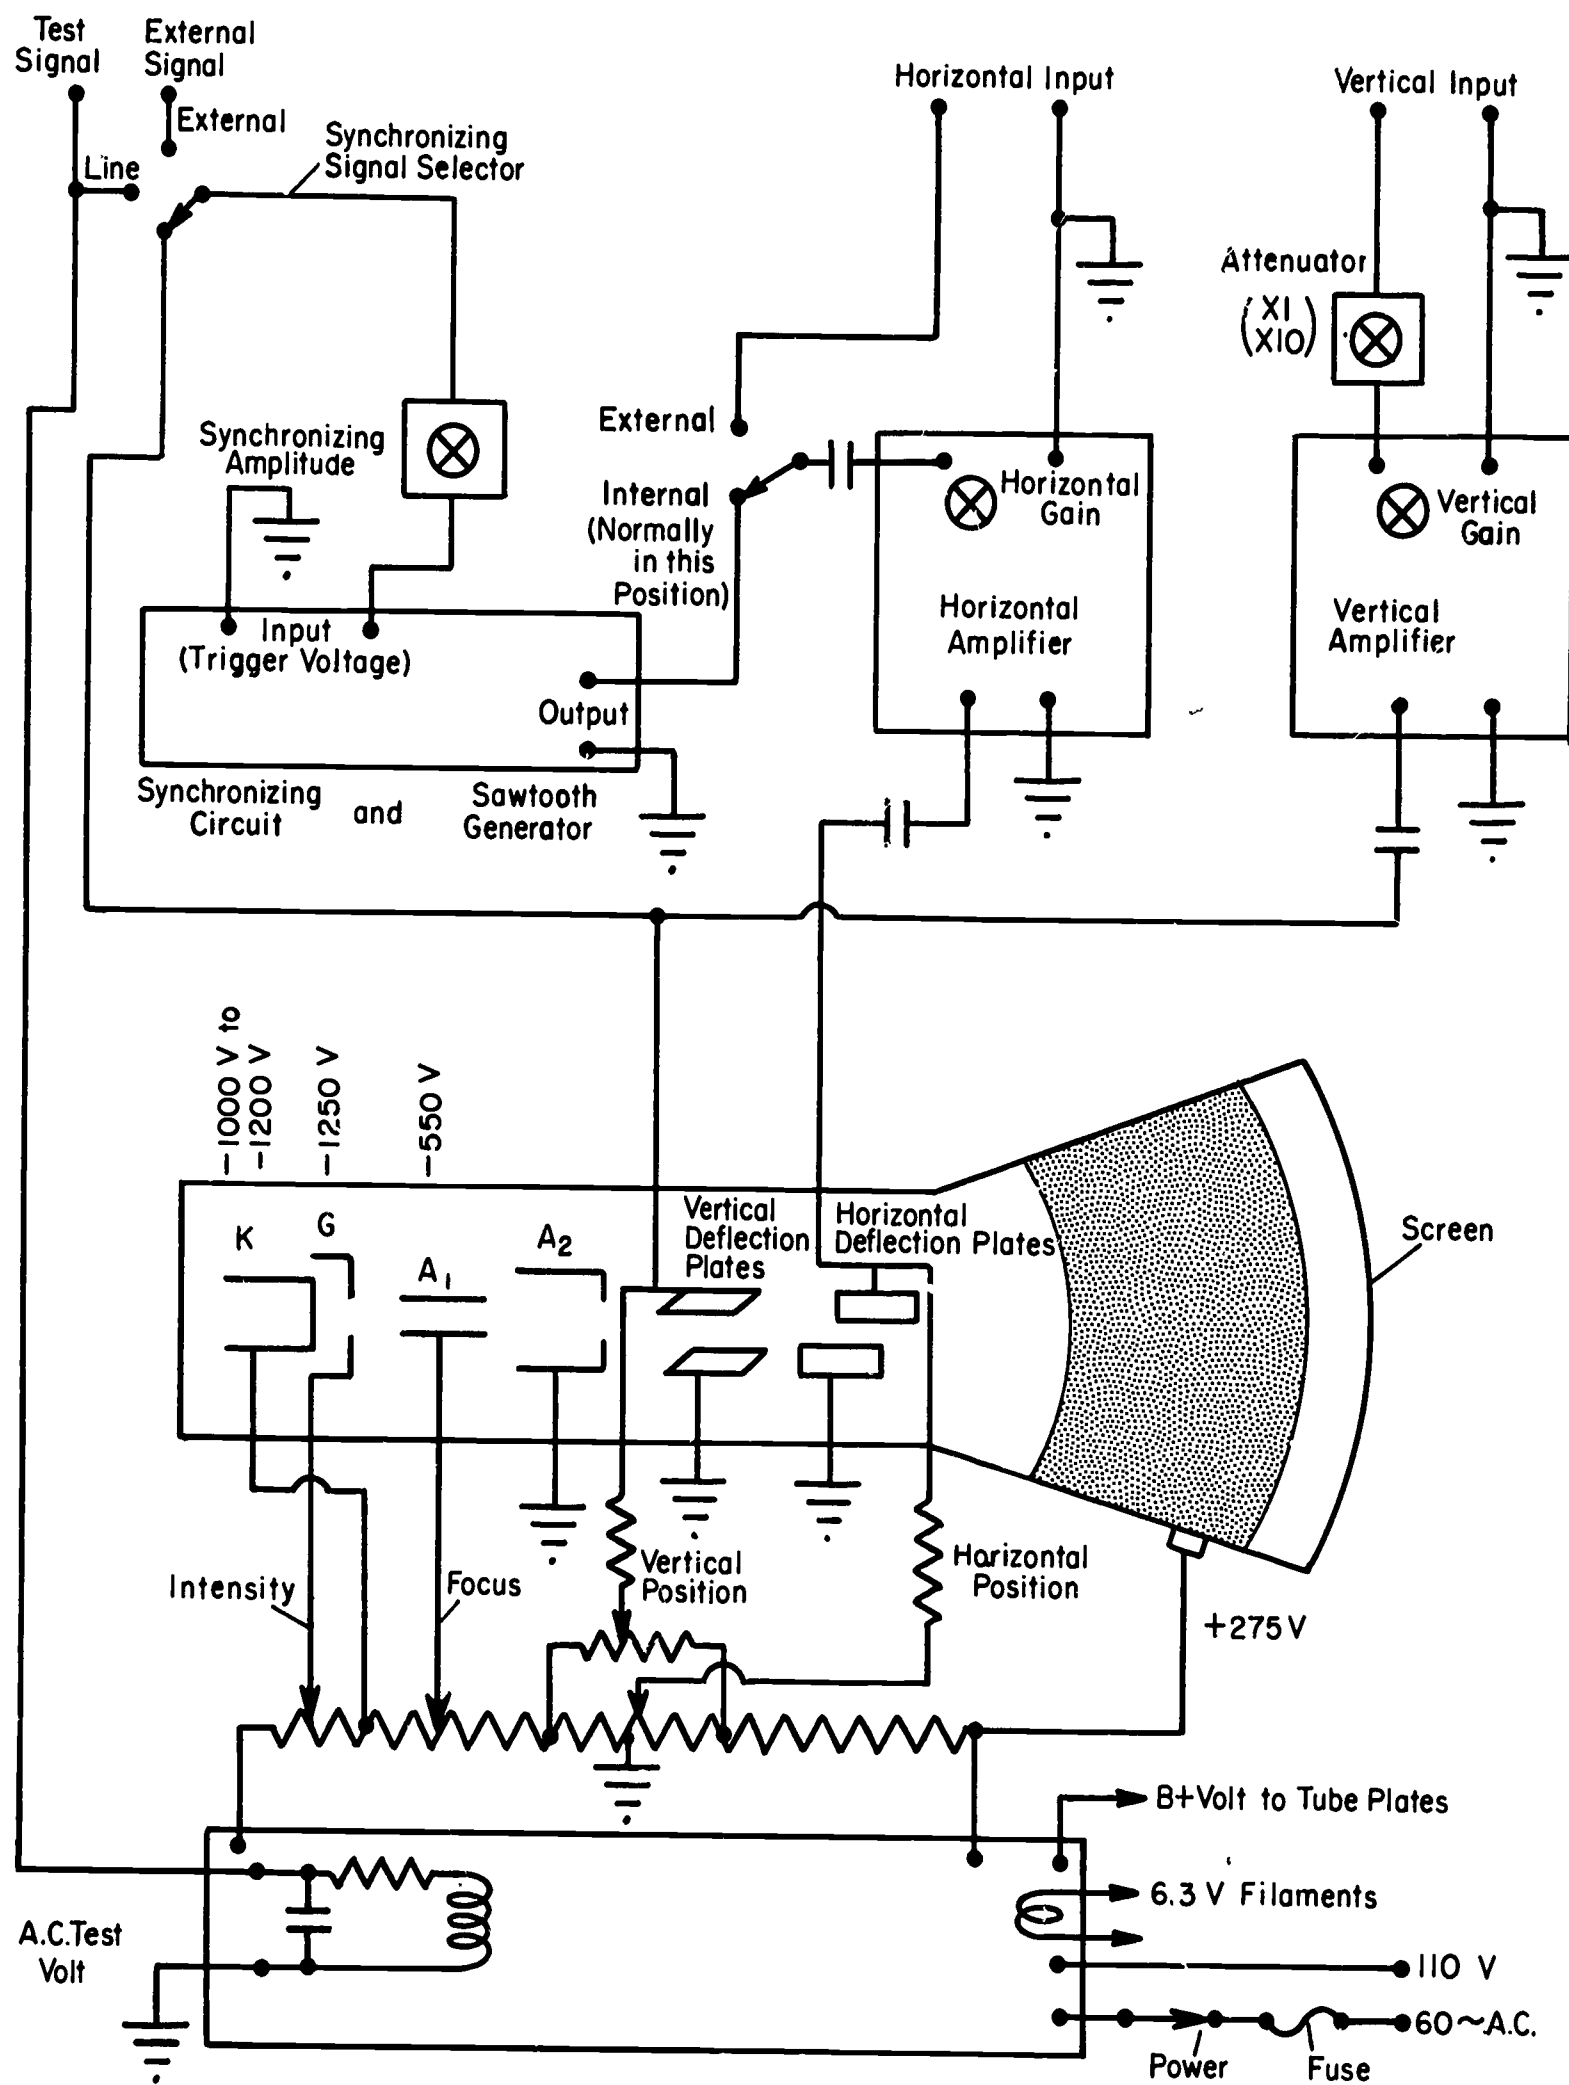
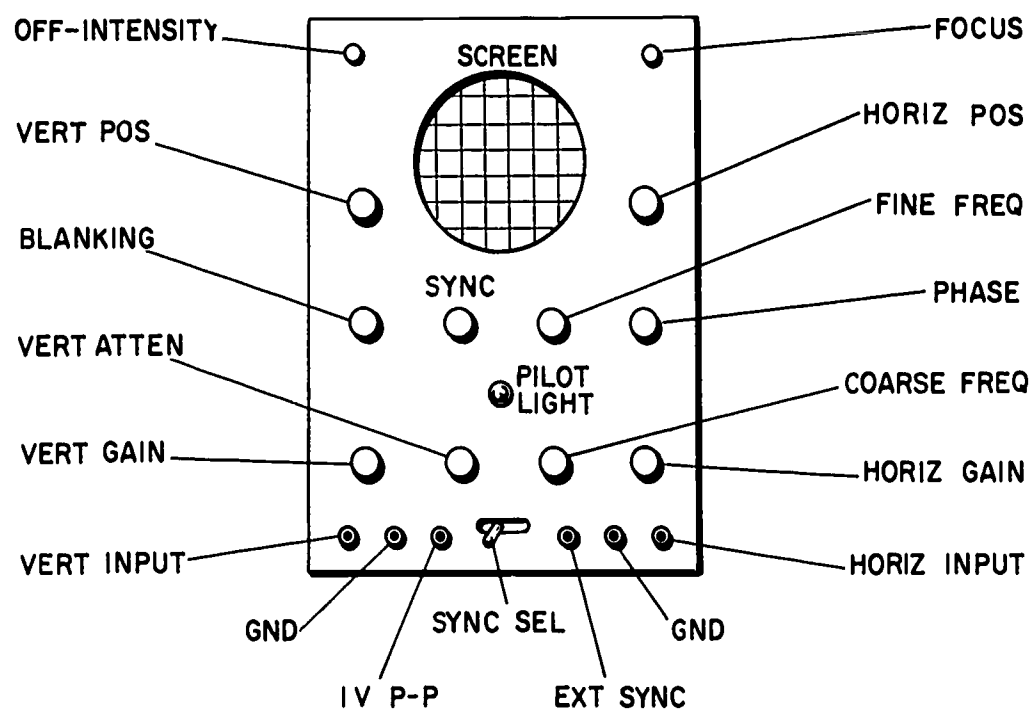

Figure 1 Cathode Ray Oscilloscope (one possible type)
Figure 11
Figure 1 shows a block diagram of a general-purpose oscilloscope. Reference to this diagram will aid in understanding the descriptions of the various oscilloscope circuits and of the functions of the controls and terminals.
Figure 11 shows the front panel of a typical oscilloscope. (Figure 1 relates these controls to the internal circuit.) Your own oscilloscope may be different from this model. If it is different, establish the location of each of the controls. Some oscilloscopes do not have all of these controls, and some may have additional controls.
If a transformer is not available, a signal can be obtained by holding the probe end of the lead (also called the hot lead) between the thumb and forefinger. (The human body acts as a fairly good antenna.) A signal can also be obtained from the test signal connector if this is available on the scope. In this case, plug the hot lead into the test connector (1v P-P on the illustrated scope, Figure 11).
3. Turn the COARSE FREQ selector switch to the LINE position. (On the scope in Figure 11 this is done by keeping the switch in EXT position and connecting the HORIZ INPUT to 1v P-P.) When the switch is set to LINE position, part of the power line signal is fed to the horizontal amplifier, providing a sinusoidal horizontal deflection voltage of power-line frequency.